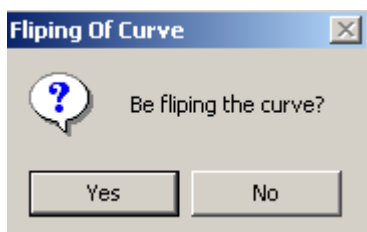

Fig. 6-16
5. Click the left mouse button on the object to display the **Flipping of Curve** dialog. (Fig. 6-16)